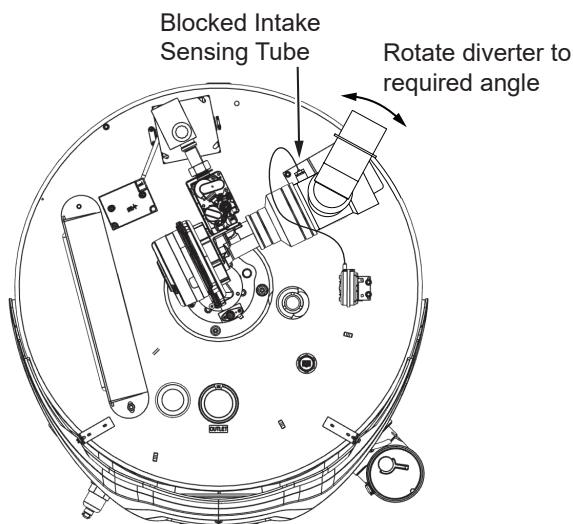

Figure 30. Diverter Assembly Rotation
2. Disconnect the blocked intake-air switch sensing tube. See **Figure 30** (page 35) for the location.